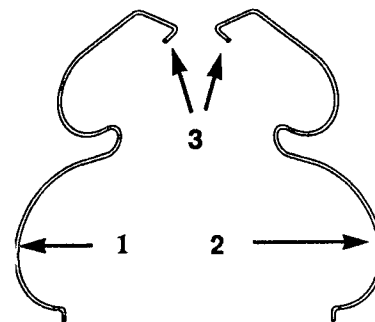

Figure 38
- A. Identify the left and right hold-down springs (Fig. 38).